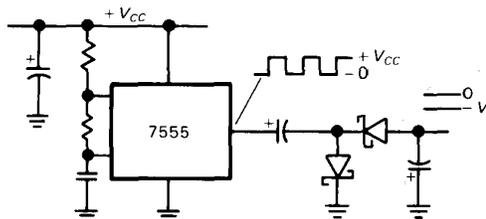

Figure 14.23. Negative-voltage generator from a positive square wave.
**3.** Figure 14.23 shows a simpler method, again somewhat limited in voltage range, using the CMOS 7555 timer chip. You can power the 7555 from a positive supply in the range 2 to 18 volts, thus generating up to  $-15$  volts or so. With a voltage multiplier (see Section 1.28) you can, of course, generate higher voltages, with correspondingly poorer regulation. If you have some CMOS logic in your circuit, you can use the output of a CMOS gate instead of the 7555. However, if you're using a high-performance CMOS family such as HC/HCT or AC/ACT, then you are limited to 5 volt logic swings, whereas the older 4000 or 74C series permit 15 volt swings, albeit at lower current.